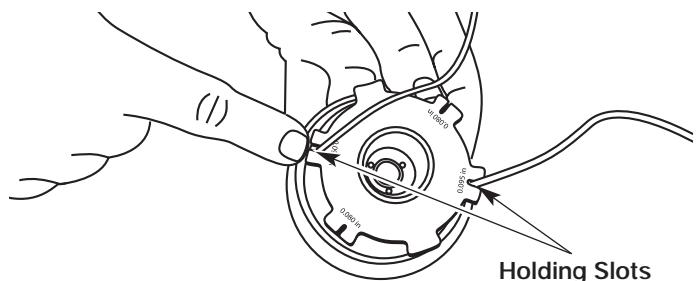

Figure 38
12. Insert the ends of the line into the two holding slots. See Figure 38.